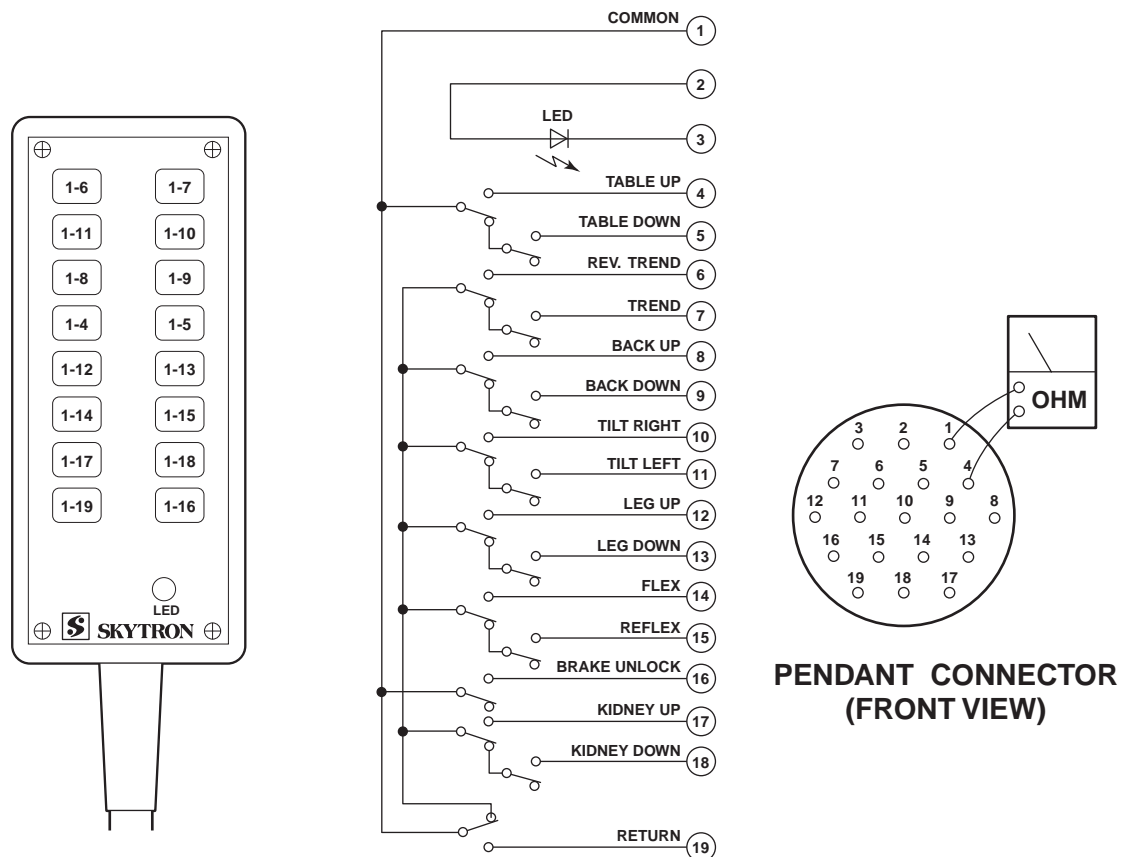

Figure 5-3. Pendant Control Test
2. Use an ohmmeter R x 1 scale and check the continuity between pin 1 and pins 4 through 19. See figure 5-3.